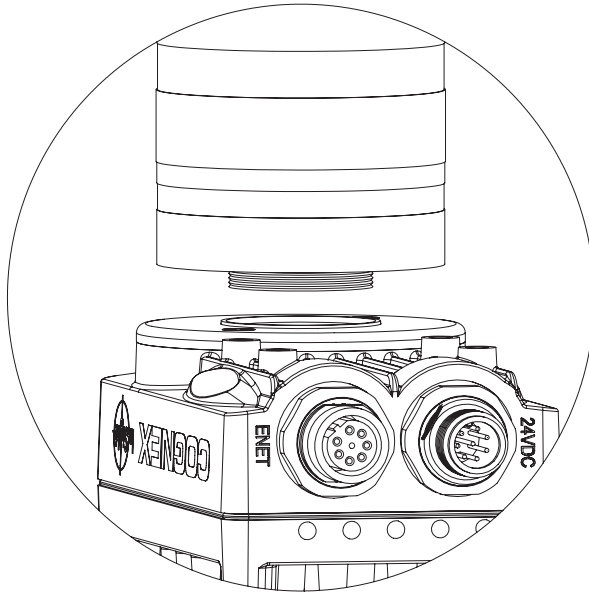

Figure 2-2: Install the Lens
1. After removing the protective lens cap and the protective film covering the CCD, attach a C-Mount lens to the vision system (Figure 2-2).